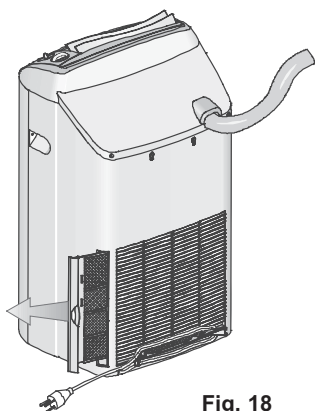

Fig. 18
- Main filter removal and cleaning (See Figures 18,19, 21,22)
- To Remove the main filter, hold the handle on its back and pull the filter out. (See Figure 18).